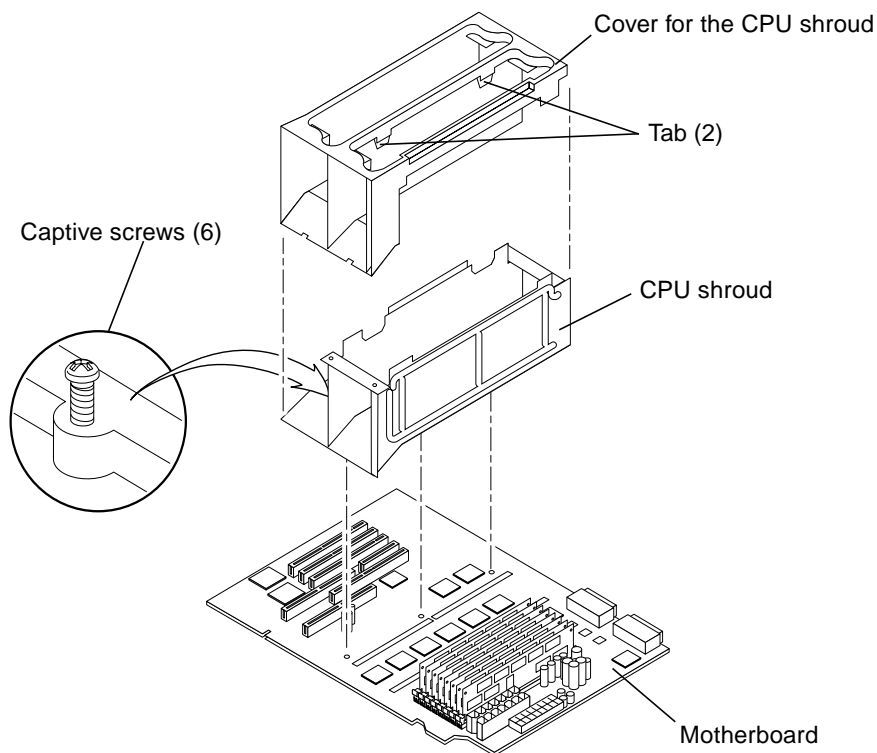

FIGURE 8-21 Removing and Replacing the CPU Shroud
4. Remove the cover for the CPU shroud (FIGURE 8-21).
7. Lift the CPU shroud from the motherboard (FIGURE 8-21).
1. Position and properly align the CPU shroud on the motherboard (FIGURE 8-21).
4. Replace the CPU shroud cover (FIGURE 8-21).